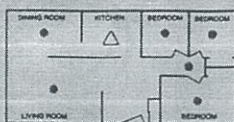
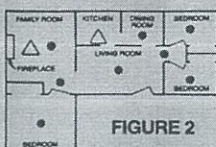
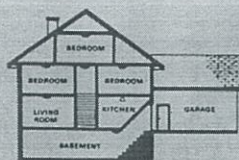

FIGURE 1
FIGURE 2
FIGURE 3
- DO INSTALL A SMOKE ALARM IN THE HALLWAY OUTSIDE OF EVERY BEDROOM AREA. IF THE BEDROOM HAS A DOOR, THERE MUST BE A SMOKE ALARM INSIDE AND OUTSIDE THE BEDROOM. SEE FIGURE 1. IF YOUR HOME OR RESIDENCE HAS TWO BEDROOM AREAS, A SMOKE ALARM MUST BE PLACED OUTSIDE THE SECOND BEDROOM AREA AND INSIDE THE BEDROOM(S) IF THEY HAVE DOORS. SEE FIGURE 2. IF YOUR HOUSEHOLD OR RESIDENCE HAS SEVERAL FLOORS, THERE MUST BE AN ALARM ON EVERY FLOOR, INCLUDING THE BASEMENT. SEE FIGURE 3.